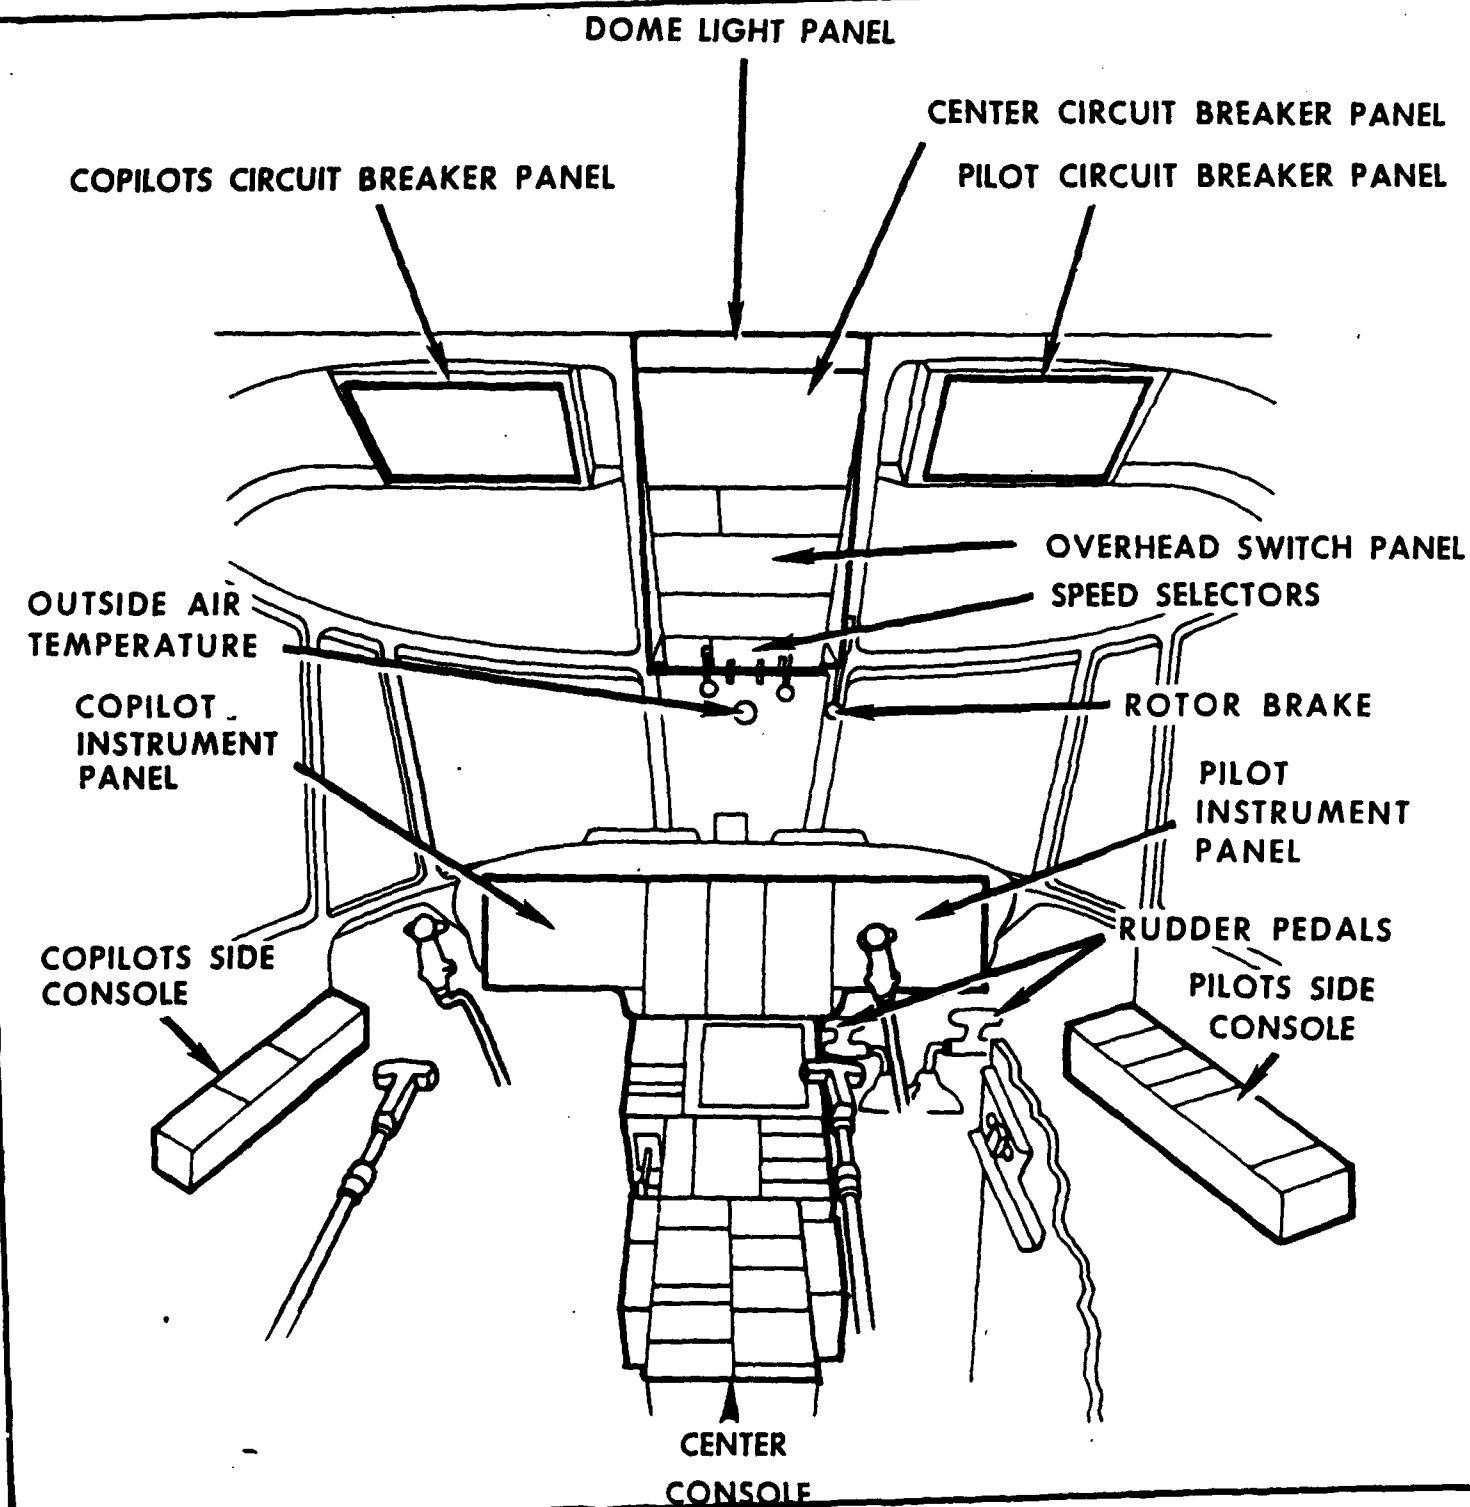

Figure 1
4. **Cockpit Description:** The SH-3 cockpit is divided into sections. Figure 1 shows the locations and names of the sections involved in the Systems Checklist.